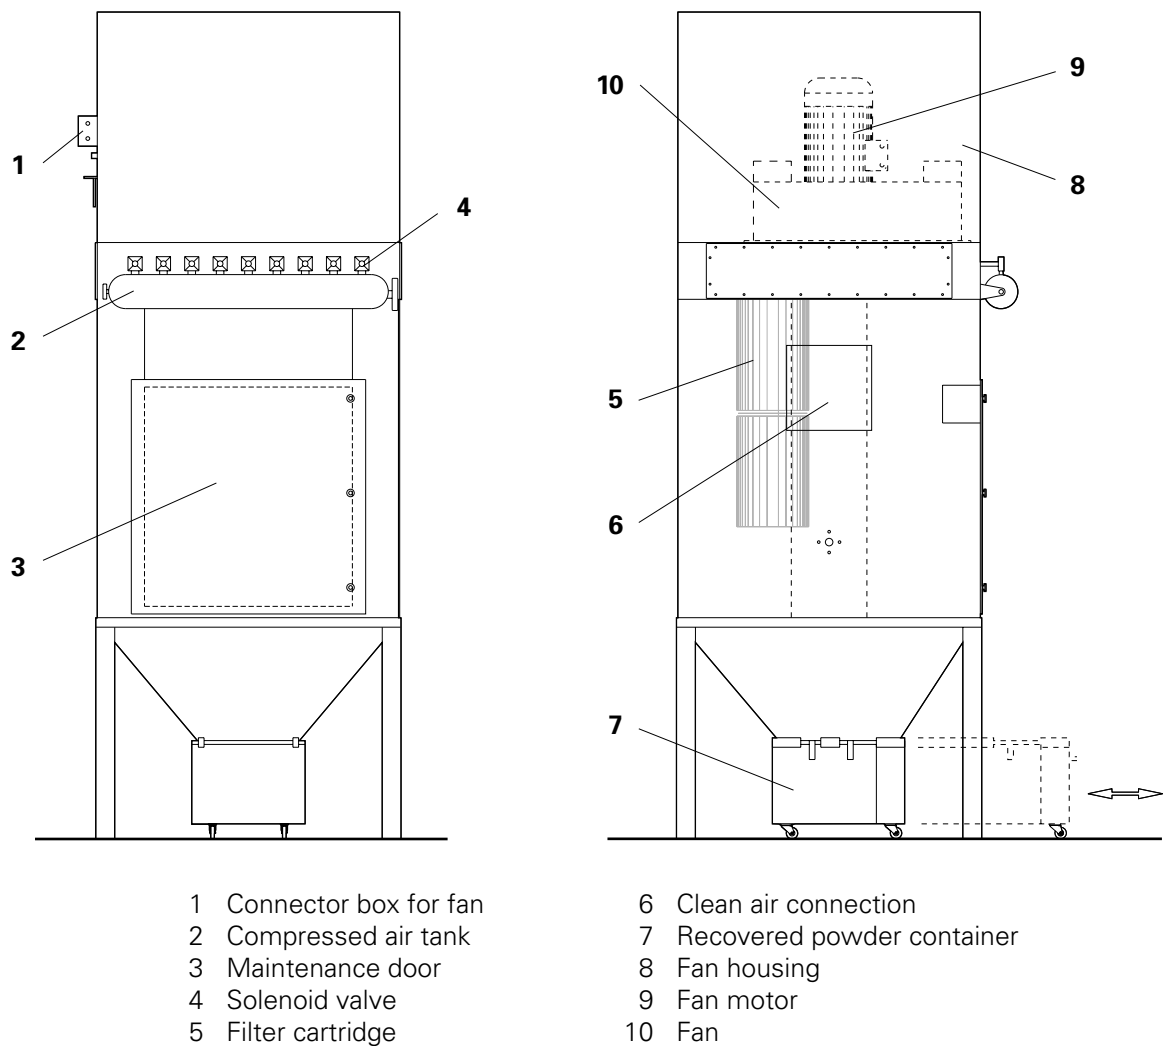
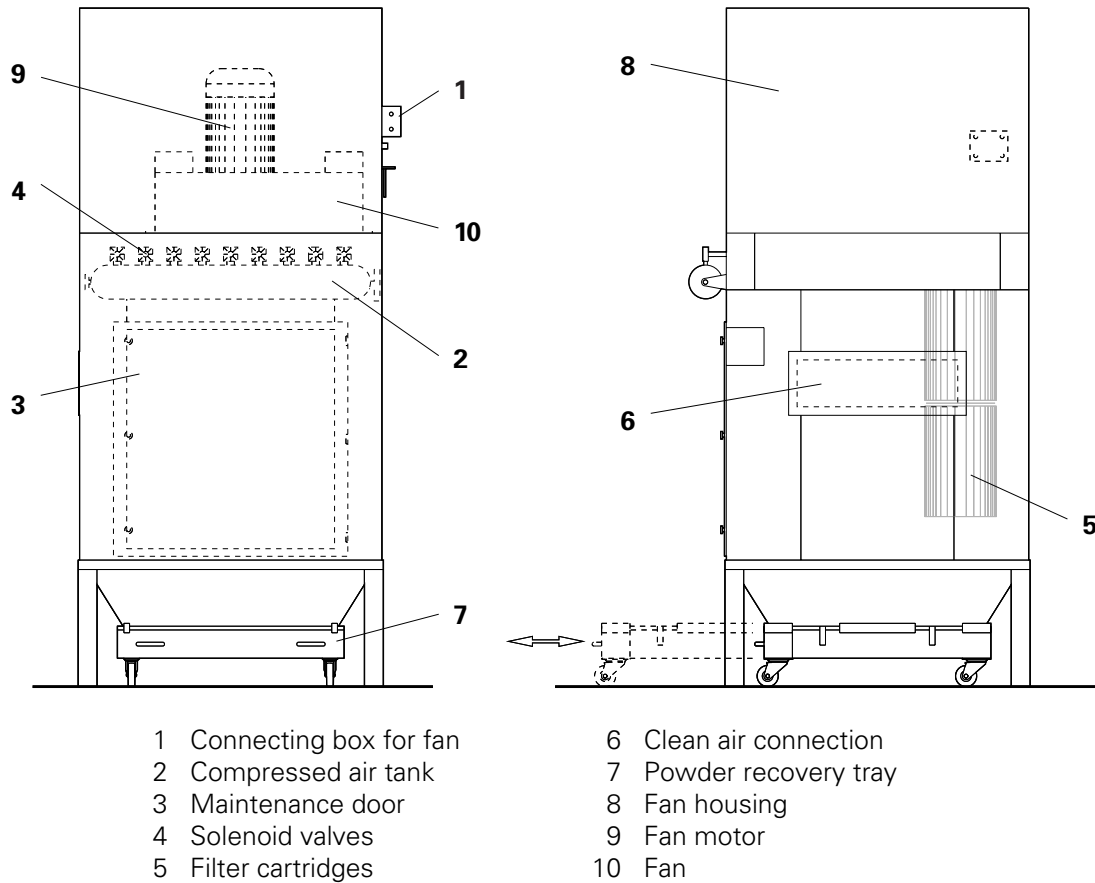

Fig. 1
Fig. 2
ITW Gema supplies two versions of After Filters (*Figs. 1, and 2 are the same scale*):
- Version 1 (Fig. 1 below) is fitted with a powder recovery container
- Version 2 (Fig. 2 - see next page) is fitted with a powder recovery tray and is lower than version 1, with powder recovery container
The Powder recovery container or Powder recovery tray (7 - Fig. 1, page 1 / Fig. 2, page 2) is grounded with a grounding lead on the After Filter funnel. This lead must be detached every time the container or tray is emptied. *After emptying the lead must be reconnected.*